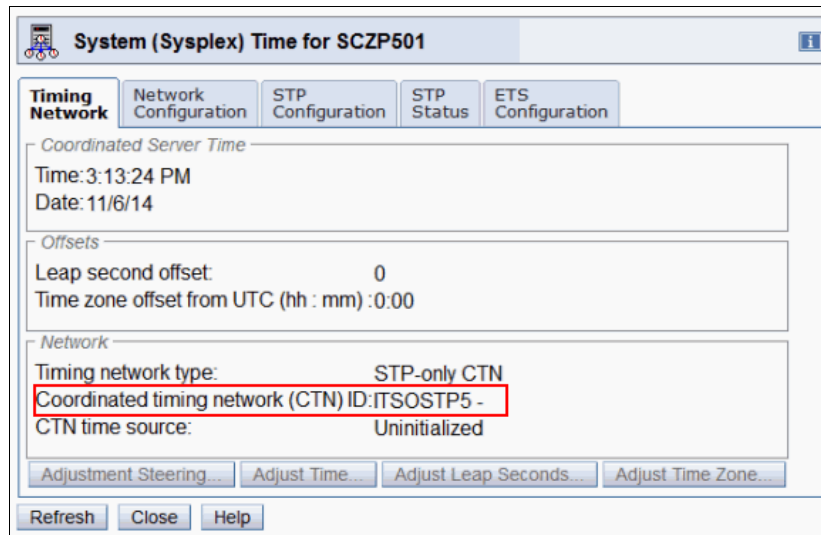

Figure 9-37 System (Sysplex) Time: Timing Network tab with CTNID
- When CTN ID is successfully set, click the **Timing Network** tab and observe the CTN ID (Figure 9-37).